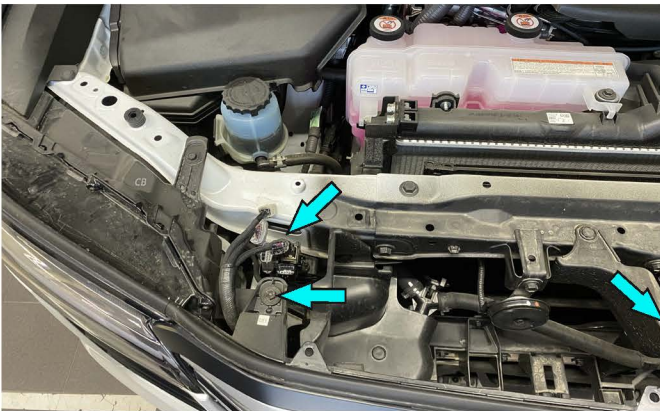

Fig.3
3. Unscrew OE bolt, disconnect OE wiring connector, as shown in fig.3.